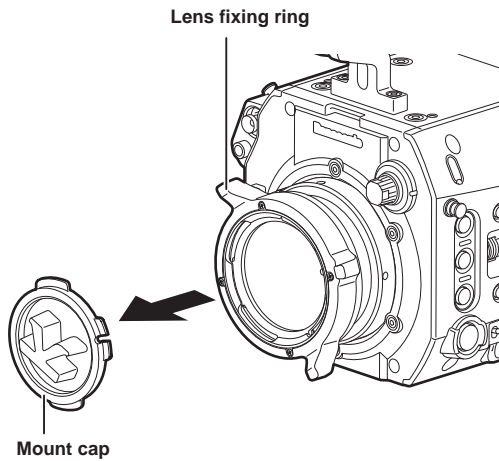

Fig. 1
**5 Fix the two mounting screws. (Fig. 1)**
- 1 Turn the lens fixing ring and remove the mount cap. (Fig. 1)